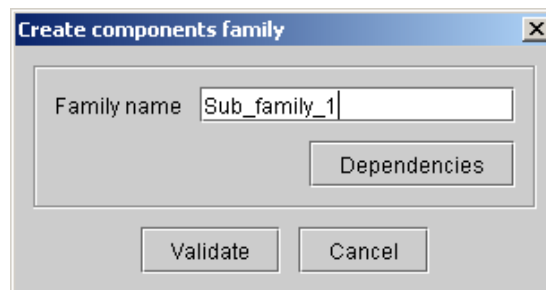

Figure 54: Name of the new sub-family
- ◆ Enter the name of the new sub-family in the dialog box (Figure 54)